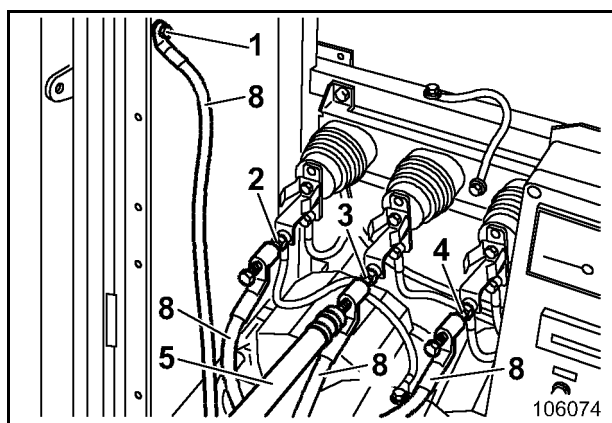

Fig. 3-2:
- Connect to earth and short-circuit: (connect the earthing and short-circuiting line (8, Fig. 3-2:) in the following order to points (1 – 4): first to the fixed point (1), then one after another to the earthing points (2, 3 and 4).